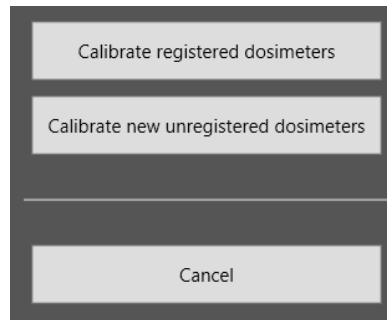

Figure 35
- 6) Select if new unregistered dosimeters shall be calibrated or if dosimeters shall be calibrated which were registered (and calibrated) before (Figure 35)